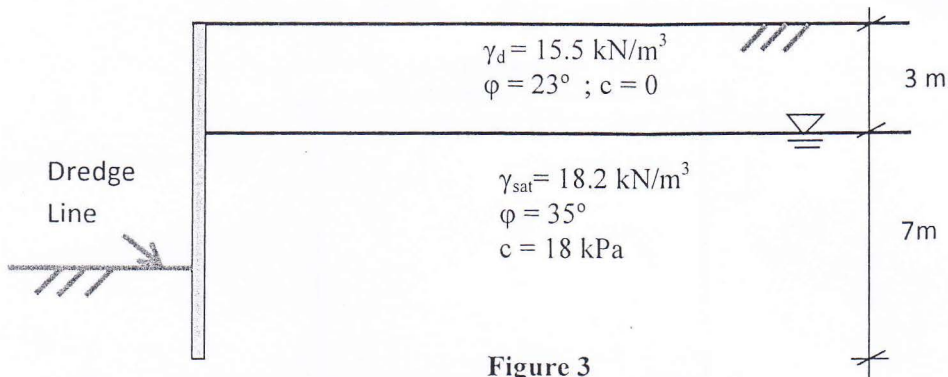

Figure 3
9. If the backfill soil pushes the retaining wall, find the magnitude of the lateral force (per unit width) on the retaining wall, shown in Figure 3. Consider up to the dredge line. The wall penetrates 2.5 m below the dredge